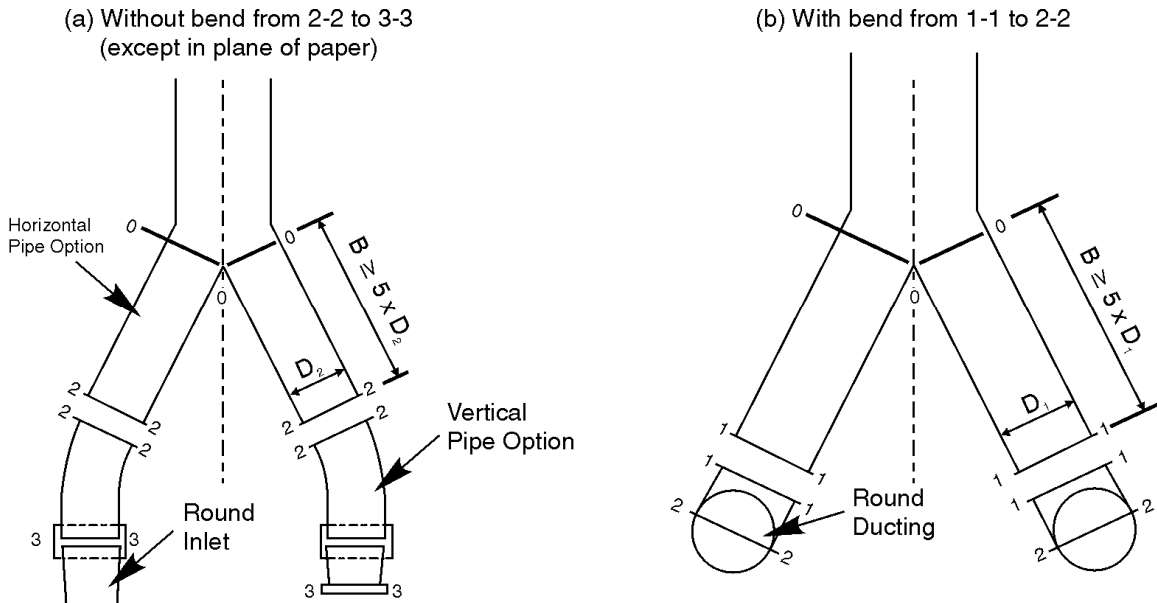

Figure 6
- Exhaust pipe outlets cut at 30° to 45° angles, rather than 90° angles, will reduce exhaust gas turbulence and noise. Refer to **Figure 6**.
Another feature that may be used in conjunction with either of the above methods are Rain/Spray Slots as shown in **Figure 6**.